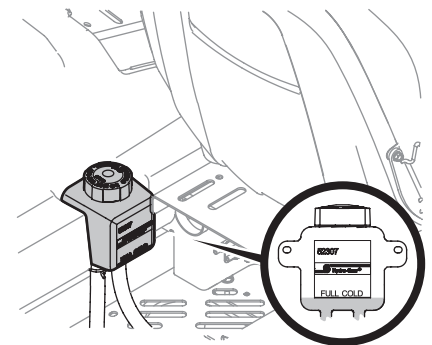

Figure 4-9
1. Clean the reservoir cap and the area around the cap to prevent debris from contaminating the transmission oil. See Figure 4-9.
2. Turn the reservoir cap counter-clockwise to remove, then check the oil level in the reservoir. Oil should be visible at the bottom of the cup, but the oil level must NOT be above the "FULL COLD" line. See Figure 4-9. **DO NOT FILL THE RESERVOIR.**